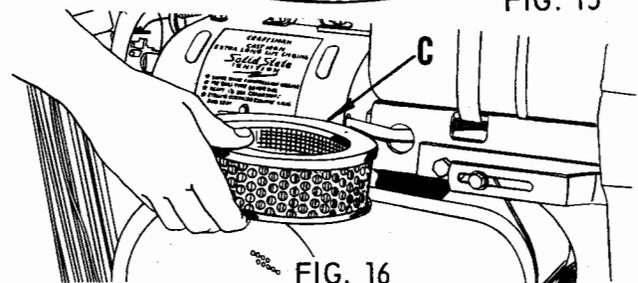

FIG. 16
- Depending on conditions in which the tractor is operating, the inner paper element (C, Fig. 16), should be replaced whenever it becomes excessively dirty. To service inner paper element, loosen wing nut (A, Fig. 14), that holds outer metal cover to bracket, and remove complete air cleaner assembly. Slip pre-cleaner from inner paper element. Handle inner paper element with care to avoid perforations or distortion of shape.
- To reassemble, slip pre-cleaner (B), over inner paper element (C). Carefully hold complete air cleaner assembly in place on bracket and replace outer metal cover and secure with wing nut. Recheck to see that air cleaner assembly is in proper position.